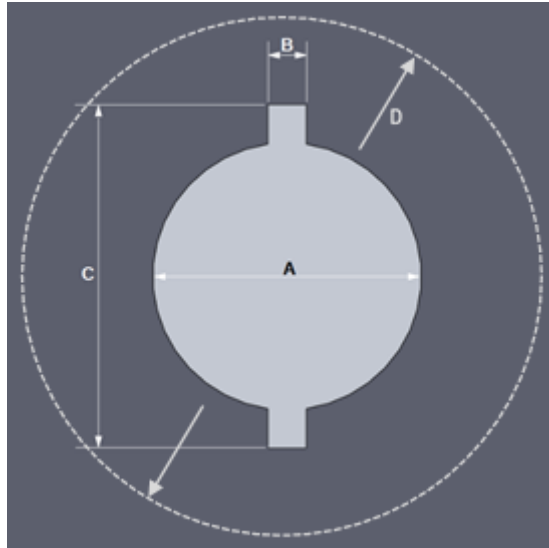

Figure 2. Panel cut-out dimensions for Jaeger Hermetic connector series: attachment by locknuts.
- When mounting, ensure the bulkhead connector's main body key sits in the panel mounting hole described by dimension 'B' in figure 2 before tightening the nut and sealing the connector.
The following table describes the mounting-hole requirements for the HC470PSG, HC470PD, HC470STG, and HC3300CL bulkhead fitting, as defined in Figure 2.
Table 1. Dimensions of the connectors' cut-outs for the bulkhead fittings. See Figure 2.